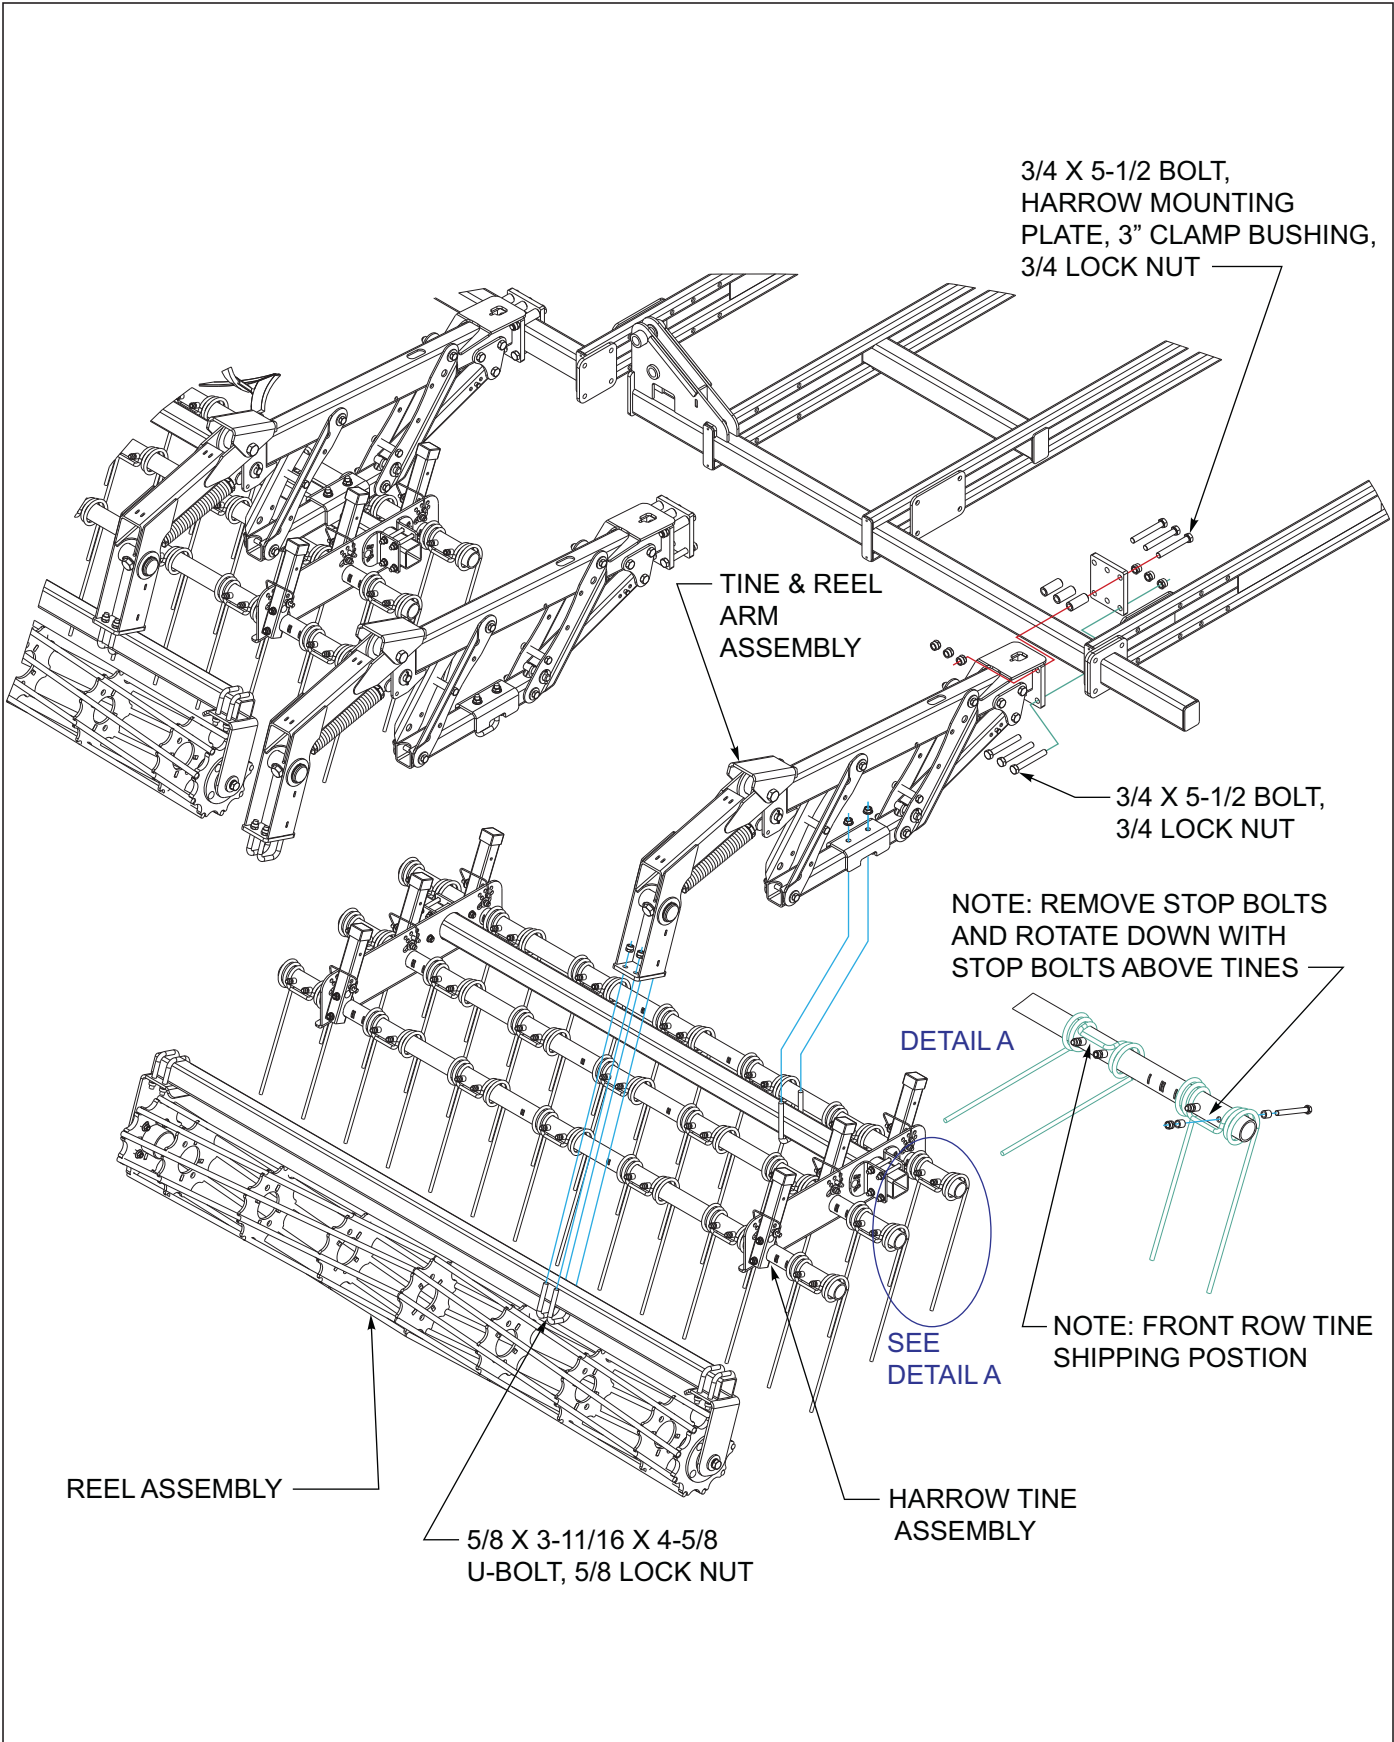

Figure 3-21: 3 Row Coil Tine and Reel Harrow Installation
1. Attach the tine/reel arm assemblies to the rear tube of the center and wing frames using harrow mounting plates, 3/4 x 5-1/2 bolts, clamp bushings and 3/4 lock nuts See Figures 3-21. Clamp bushings are installed on the top mounting bolts.